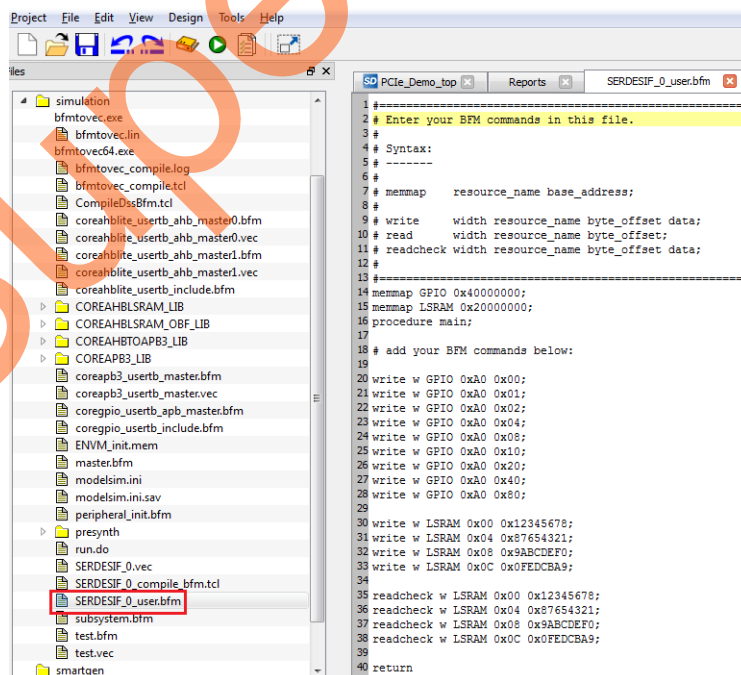

Figure 36 • Modified SERDES User BFM
3. The modified BFM file appears similar to the file shown in Figure 36.